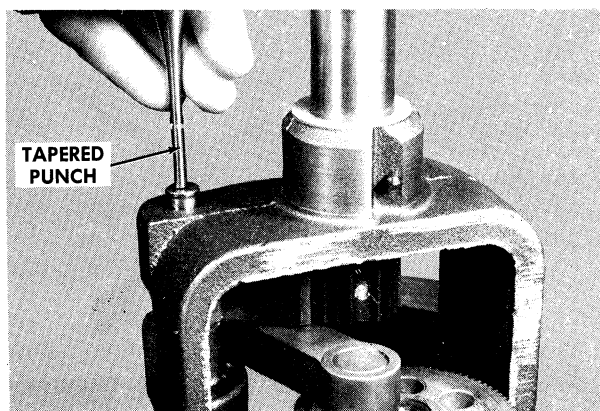

Figure 90
10. By removing keepers and pins, items 23, 24, 25, and 12, 13, and 15, the gear segment, gear and crank arm can be removed, items 20, 21, 22 in *Figure 85*. See *Figure 90*.